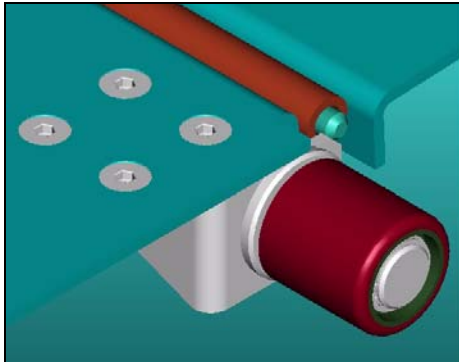

Figure 33. Packer roller
11. Visually inspect both hopper side rails and packer rollers (see Figure 33. “Packer roller”) for premature wear.